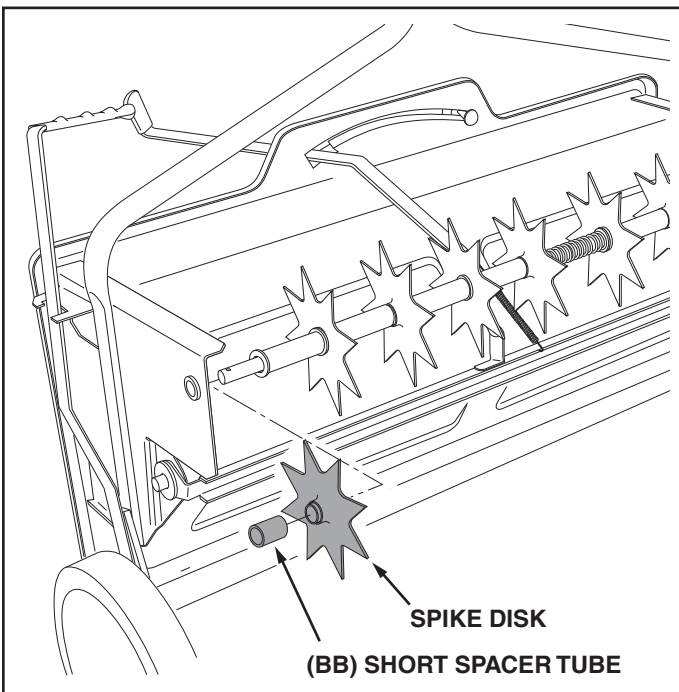

FIGURE 21
40. Place a spike disk and a short spacer tube onto the shaft. Fit the short spacer tube onto the ends of the flanged bearings in the spike disk and in the end plate. Push the shaft on through the flanged bearing in the end plate. See figure 21.